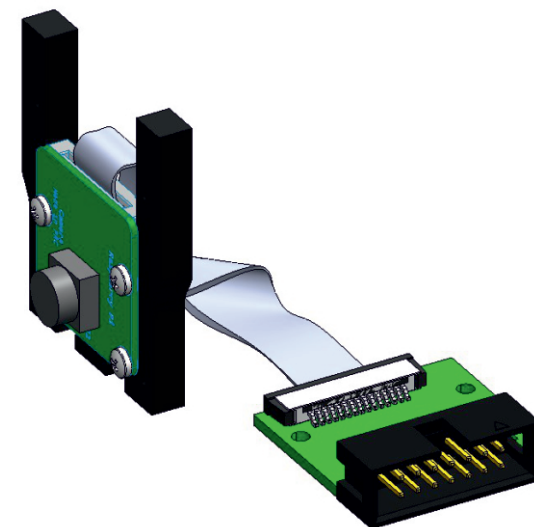

Fig. 27: Camera assembly
4) Assemble the camera together with the bracket using four M2x6 screws (Fig. 27):